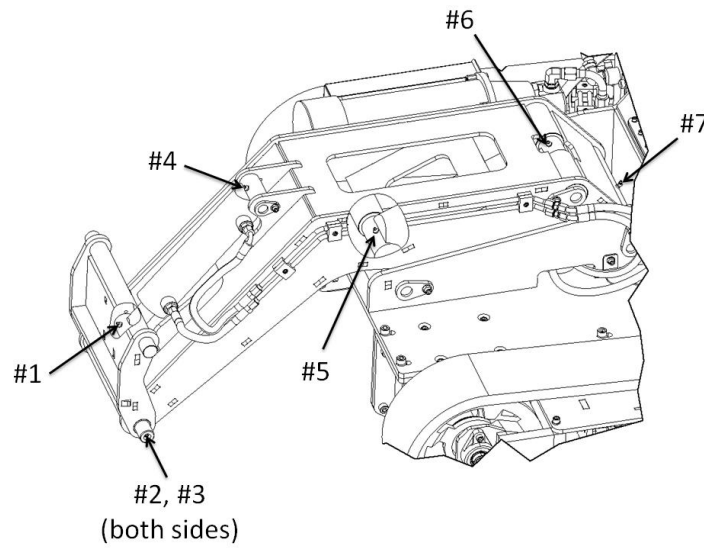

Figure 16 : Pivot grease fittings locations (bucket removed for clarity)
3. Locate the #1 to #4, #6 and #7 pivot grease fittings (see Figure 16).